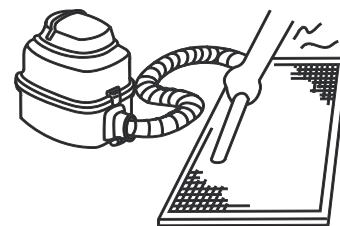

Figure 13.3
- The air intake side should face up when using a vacuum cleaner. (Refer to Figure 13.3)